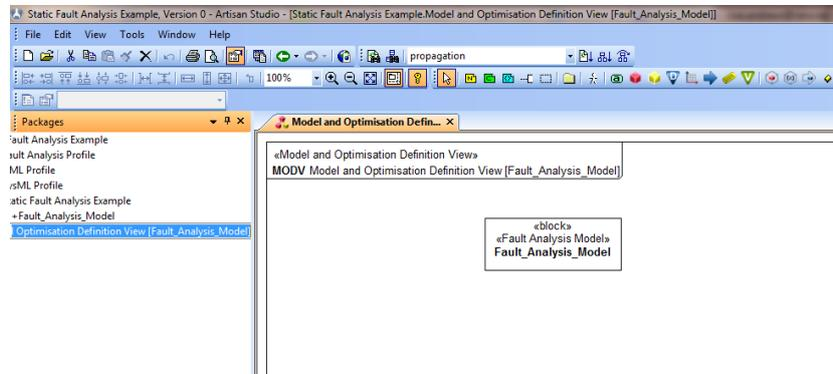

Figure 5: The newly created *Model and Optimisation Definition View*
3. The new *Model and Optimisation Definition View* will be created as shown in Figure 5
2. The new *Model and Optimisation Definition View* will be created and will look the same as previously shown in Figure 5